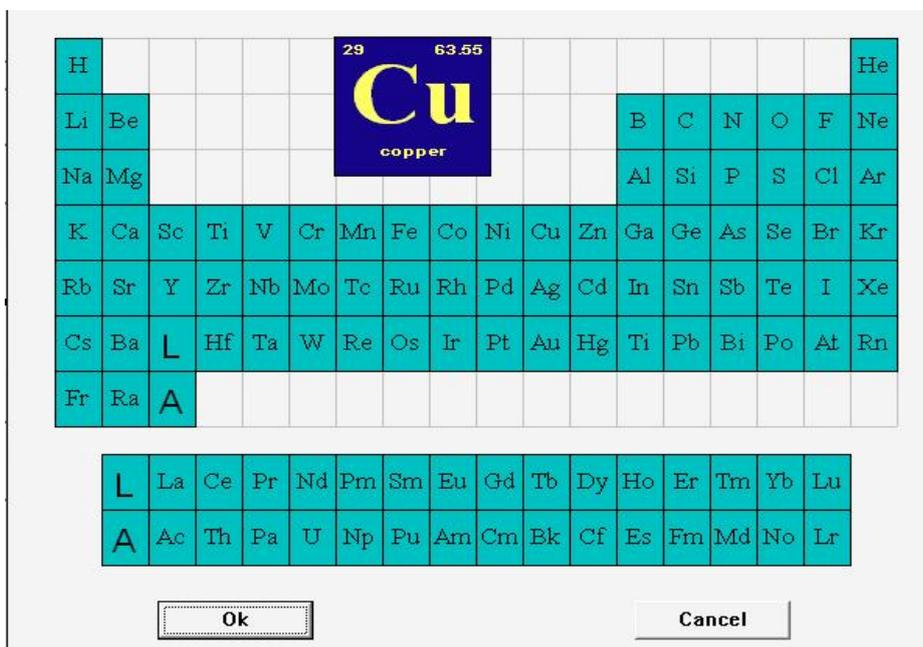

Figure 4-13
2. Select an element and click, then the element is checked and displayed in prominent position, as shown in Figure 4-13.